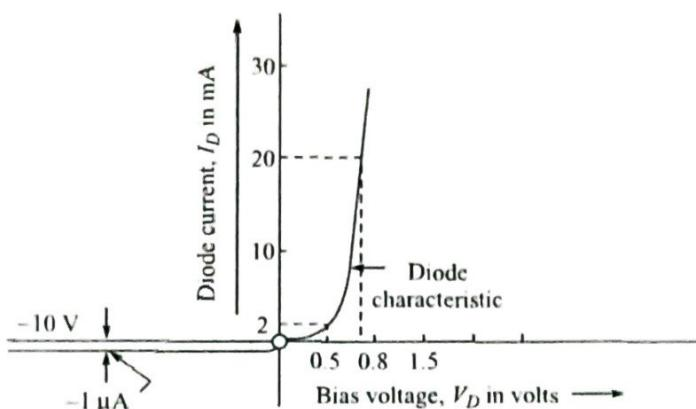

Figure 2.33
**PROBLEM 2.18:** Determine the dc resistance level for the diode shown in Fig. 2.33 at